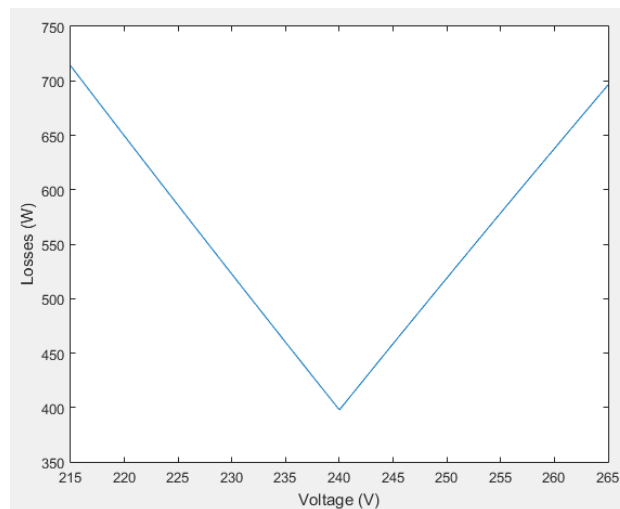

Figure 2. Losses curve for the UPFC with a 50kW load connected (example)
The losses curve of the UPFC is a XY curve where the losses are defined as a function of the input voltage. The values for the voltage (X) must be specified in pu and the values for the power (Y) must be specified in percentage. In the case of the power, the quantities must be specified considering the base power, this is, suppose that the load power is 50kW and the desired losses at 0.9 Vpu are the 1%, in this case, the couple of values will be 0.9 (X) and 1.01 (Y). For example, consider the losses curve shown in Figure 2. This curve corresponds to the losses of the UPFC when connected to a load of 50kW.
In Figure 2, the minimum value of losses is 397.76W and the maximum 713.76W, both values correspond to the 0.8% and 1.43% of the load. In this case, the XY curve object must be defined in OpenDSS as follows: